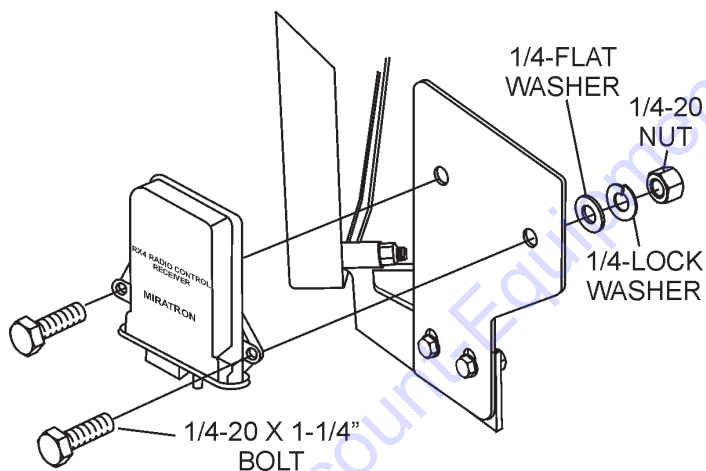

Figure 3. Radio Receiver Mounting
8. Install radio receiver as shown in (Figure 3).
1. Using a 1/4-20 x 1-1/4 bolt (2), 1/4 lock washer (2), 1/4 flat washer (2) and 1/4 nut (2), mount the radio control receiver onto the radio receiver mounting bracket as shown in Figure 3.